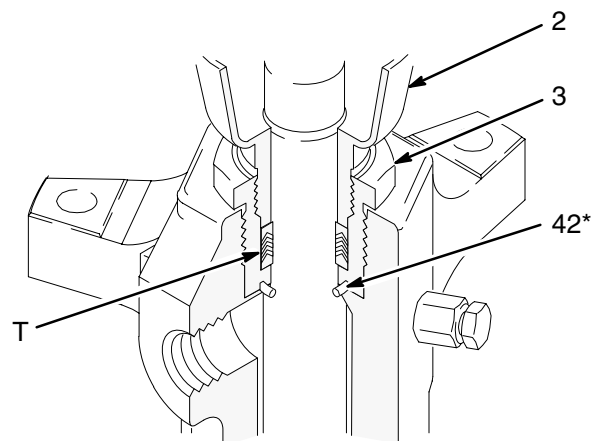

Fig. 10 **Model 236611 Displacement Pump Shown**
7. Using a rubber mallet, drive the displacement rod (1) and the priming piston rod (18) out of the outlet housing (9) and cylinder (10). Inspect the outer surfaces of the rods for damage by running a finger over the surface.
8. Unscrew the packing nut (2). Unscrew the packing housing (3) and remove the seal (42). Remove the throat glands and packings (T). See Fig. 10.